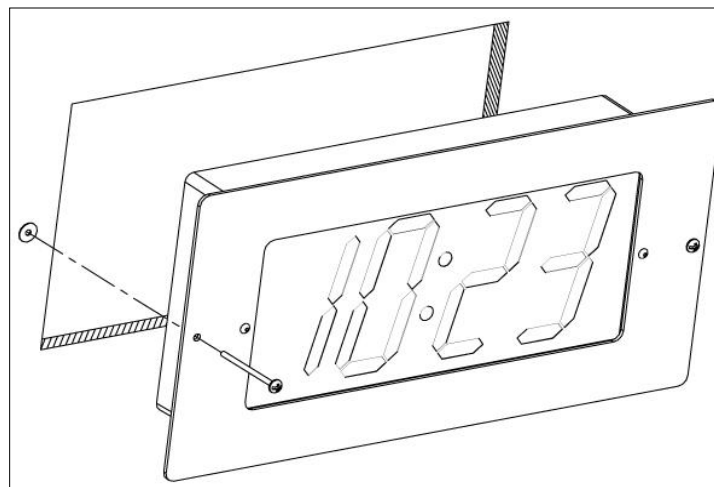

Figure 13: Clock/Flush Mount Assembly
- Place the clock/flush mount assembly in the hole and re-install the screws, as seen in Figure 13.